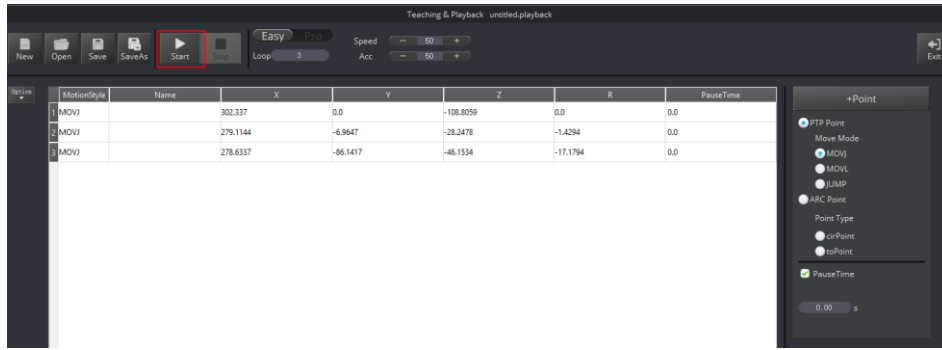

Figure 2.23 Click Start
6. Click **Start** to perform the motions taught above, as shown in Figure 2.23. The robotic arm will stop after playing back the steps for three times.